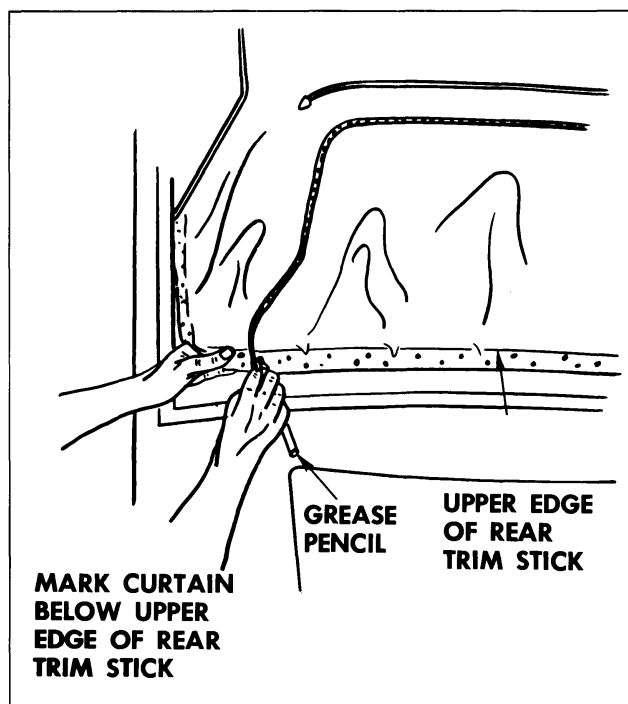

Fig. 21-16 Locating Edge of Top Material
12. To establish relationship of right and left inner vertical edge of old top material to back curtain assembly at rear trim stick location, mark back curtain vinyl at both locations with a grease pencil (Fig. 21-16). Reference marks should be transferred to new back curtain when step 6 of installation procedure is performed.